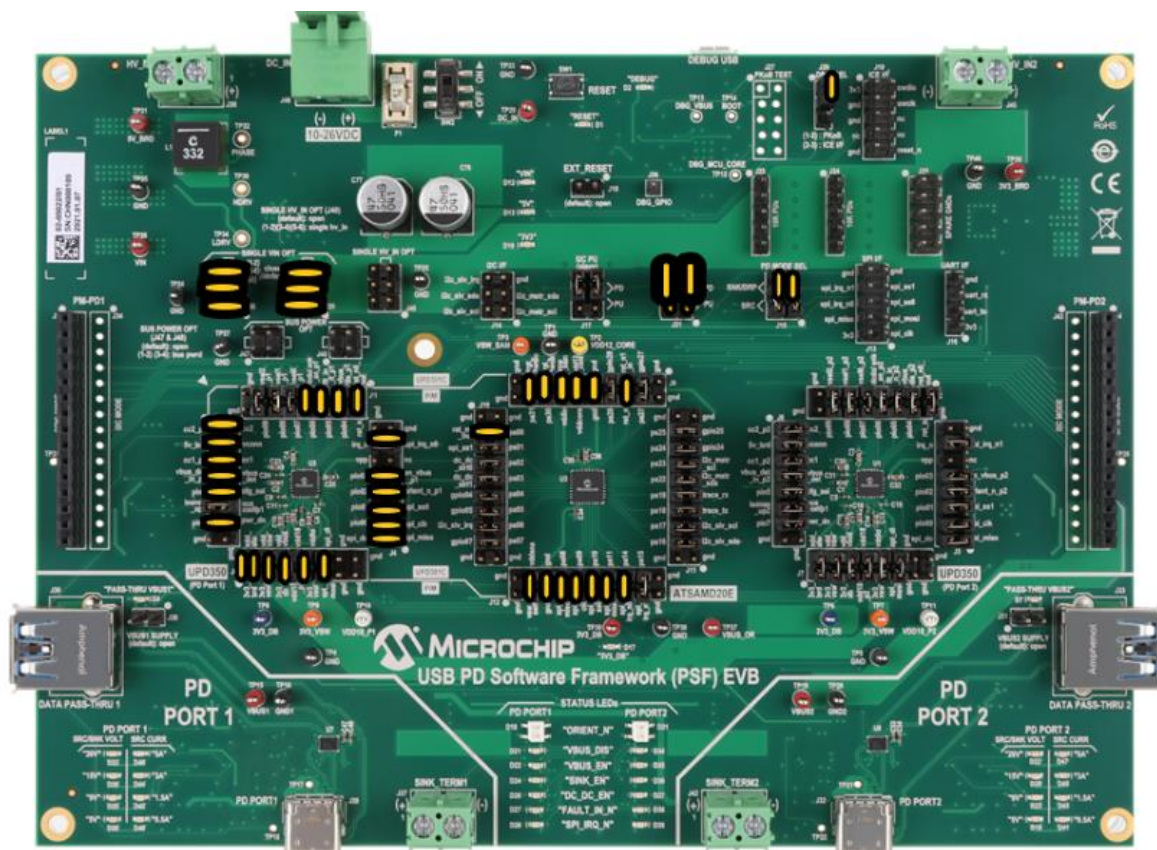

Figure 5.1 EVB-PSF with jumper connections
1. Ensure the following jumpers are connected in EVB-PSF before proceeding to next step. An image of EVB-PSF with all the required jumper connections highlighted is shown in Figure 5.1